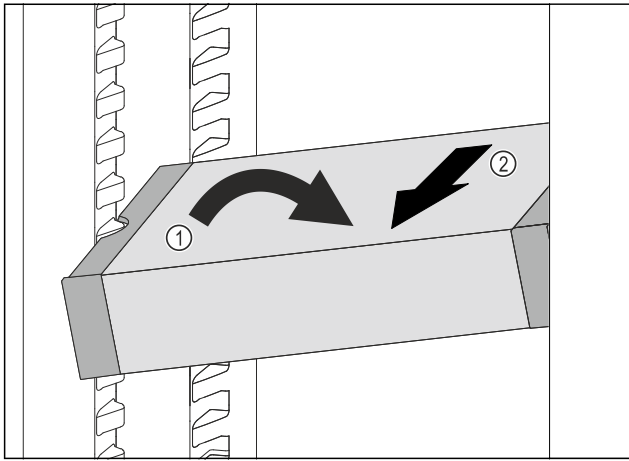

Fig. 174
- ▶ Set VarioSafe in refrigerator compartment at an angle. Fig. 174 (1)
- ▶ Take VarioSafe out to the front. Fig. 174 (2)